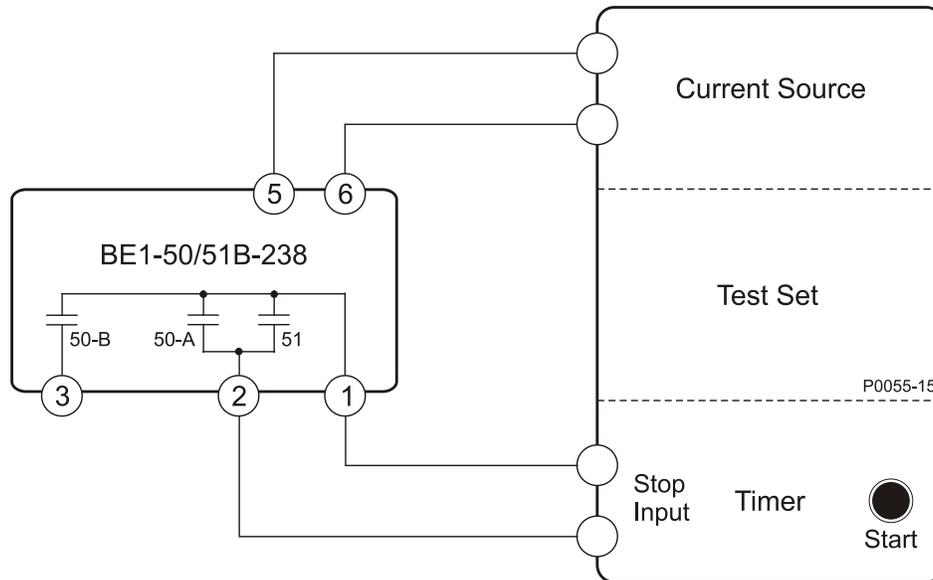

Figure 5-4. 51 Pickup, Time Dial, Integrating Reset, and 50-A Pickup Test Setup
- a. Connect the test setup shown in Figure 5-4.
- a. Connect the test setup as shown in Figure 5-4.